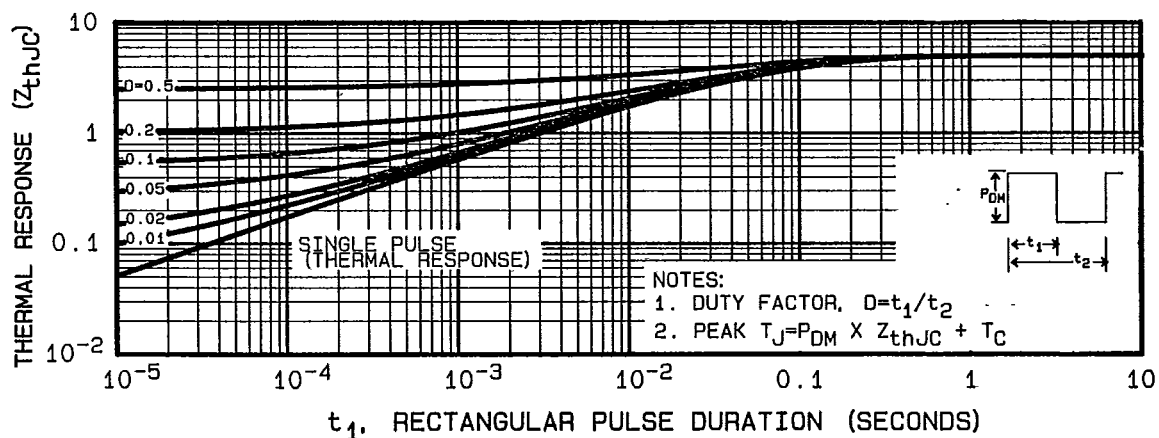

Fig. 5 — Maximum Effective Transient Thermal Impedance, Junction-to-Case Vs. Pulse Duration
① Repetitive Rating; Pulse width limited by maximum junction temperature (see figure 5)
② @  $V_{DD} = -25\text{V}$ , Starting  $T_J = 25^\circ\text{C}$ ,